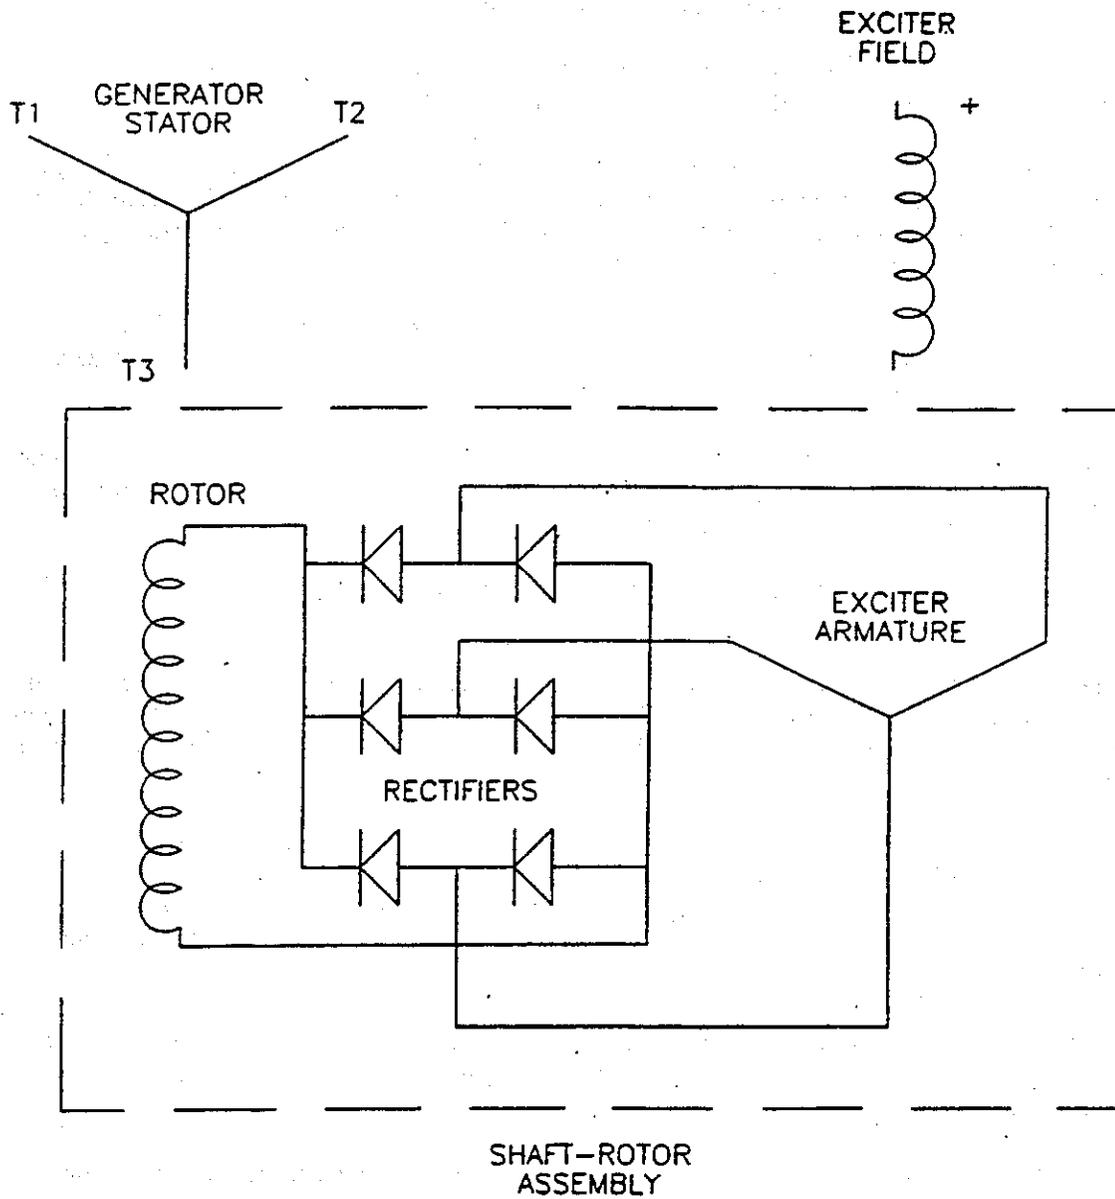

FIGURE 1-28. BRUSHLESS GENERATOR SCHEMATIC
- 1.16.12.1 **General.** Revolving field type generators have a DC field revolving within a stationary AC winding called the stator. See brushless generator schematic, Figure 1-28. AC power is distributed from the generator through leads connected to the stator windings. There are no sliding contacts between the AC winding and the load, therefore, great amounts of power may be drawn from this generator.